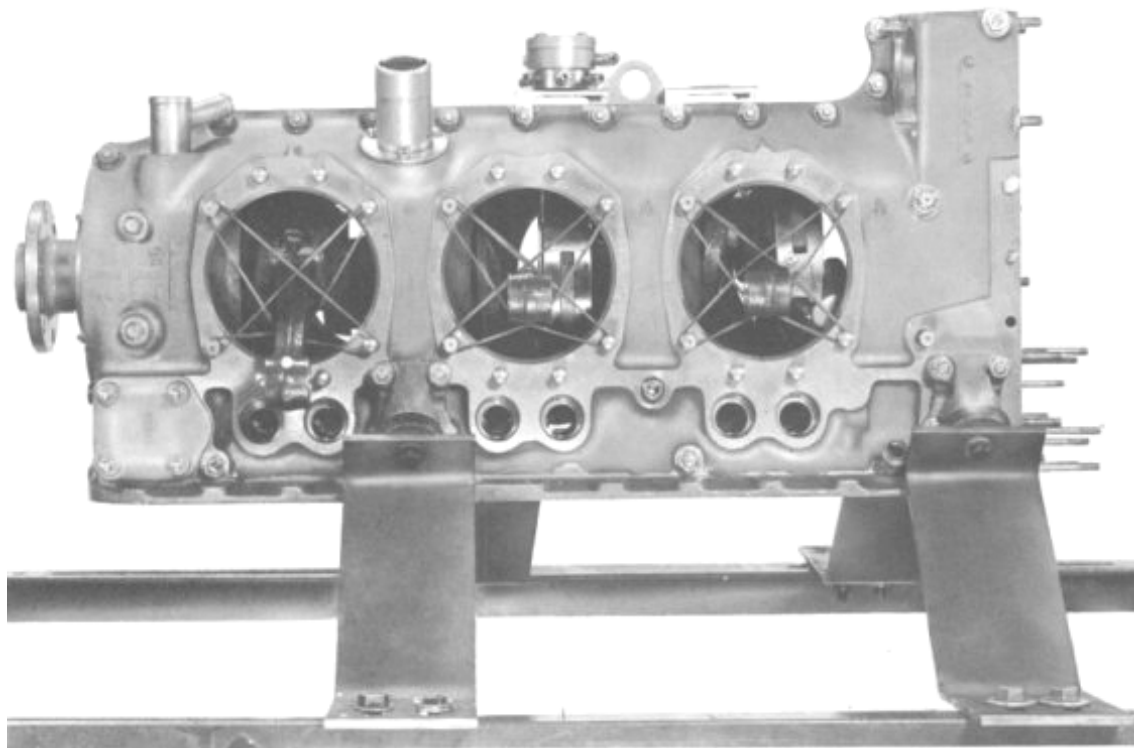

FIGURE 8-4. LEFT SIDE OF COMPLETED CRANKCASE ON STAND.
- l. Install fuel manifold valve over crankcase flanges. Install spacer (22), lifting eye (21) and secure with attaching parts (20, 19, 18, 17). Install attaching parts (50 through 53).
- m. Install one bolt and washers (42, 43, 44) at left rear, one "O" ring (48) and two bolts and washers (42, 43, 44) at right rear and one bolt and washer (42, 43) at right front. Do not tighten any parts in this group yet.
- p. Install two "O" rings (48), one bolt (49) and attaching parts (45, 46, 47, 49) in the upper rear case hole and tighten nut.
q. Attach right crankcase mount brackets to the assembly stand and rotate stand until engine is upright as shown in Figure 8-4.
r. Install generator mount bracket (31) and secure with attaching parts (24 through 30).